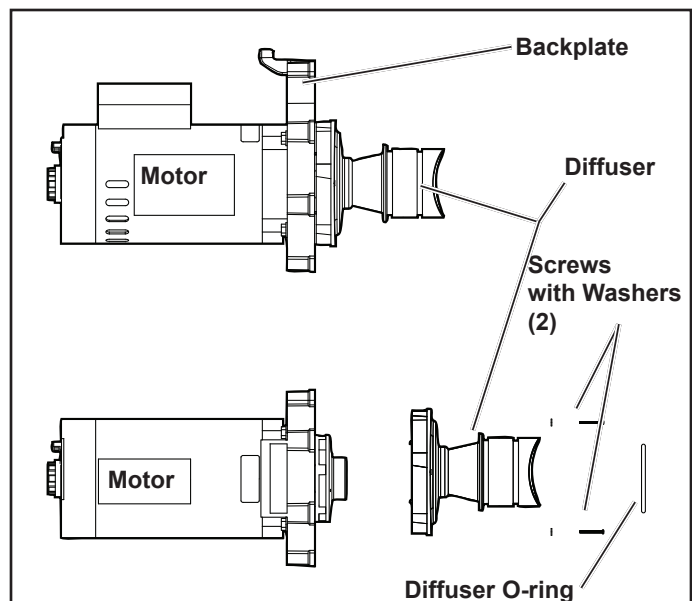
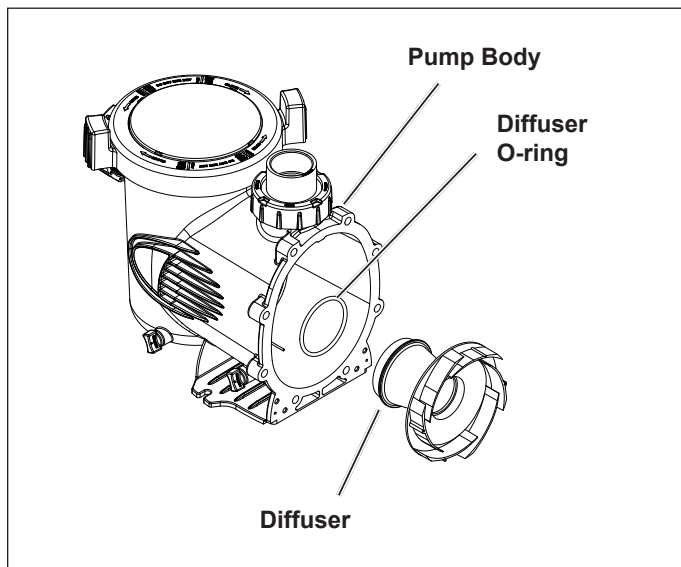

Figure 6. Remove the Diffuser
Figure 8. Location of the Diffuser O-ring on a SHPF 5.0 HP Only
5. Using a No. 1 Phillips screwdriver, remove the two (2) screws holding the diffuser. (The diffuser is the cover over the impeller.) Then remove the diffuser, see Figure 6. The SHPF 5.0 uses a different diffuser than other models. See Figure 8.